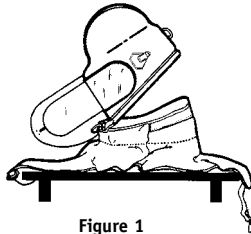

Figure 1
2. Remove cape from helmet by lifting up on clamp and disengaging cape from helmet groove (see Figure 1).